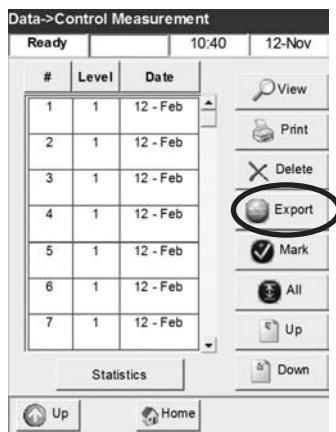

Fig. 4-33 Export Data
3. Select the data to be exported and press  to start the data transfer (Fig. 4-33).